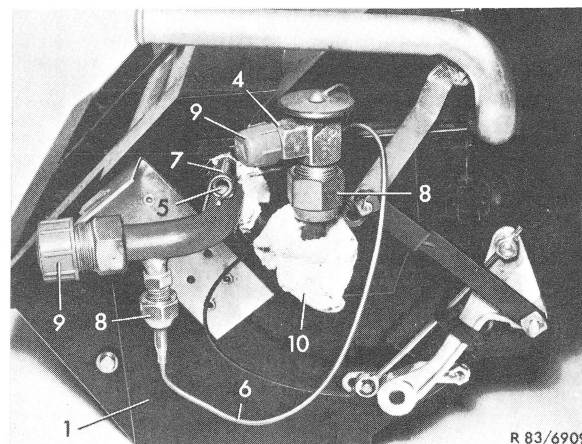

Figure 1
- 4 Unscrew air duct at left, but without disconnecting cable control with coil (83.1–100, item 8 and 9,).
- 5 Unscrew discharge hose from receiver to expansion valve on expansion valve (4) (Fig. 1).
- 6 Remove sealing tape (10) (NO DRIPE TAPE) from expansion valve.
- 7 Remove clip (7) from capillary pipe together with temperature sensor (5) from evaporator pipe.
- 8 Loosen coupling nut (8) on expansion valve (4)
by means of clip (7) as shown in Fig. 1, install pressure compensation line (6) and connect.